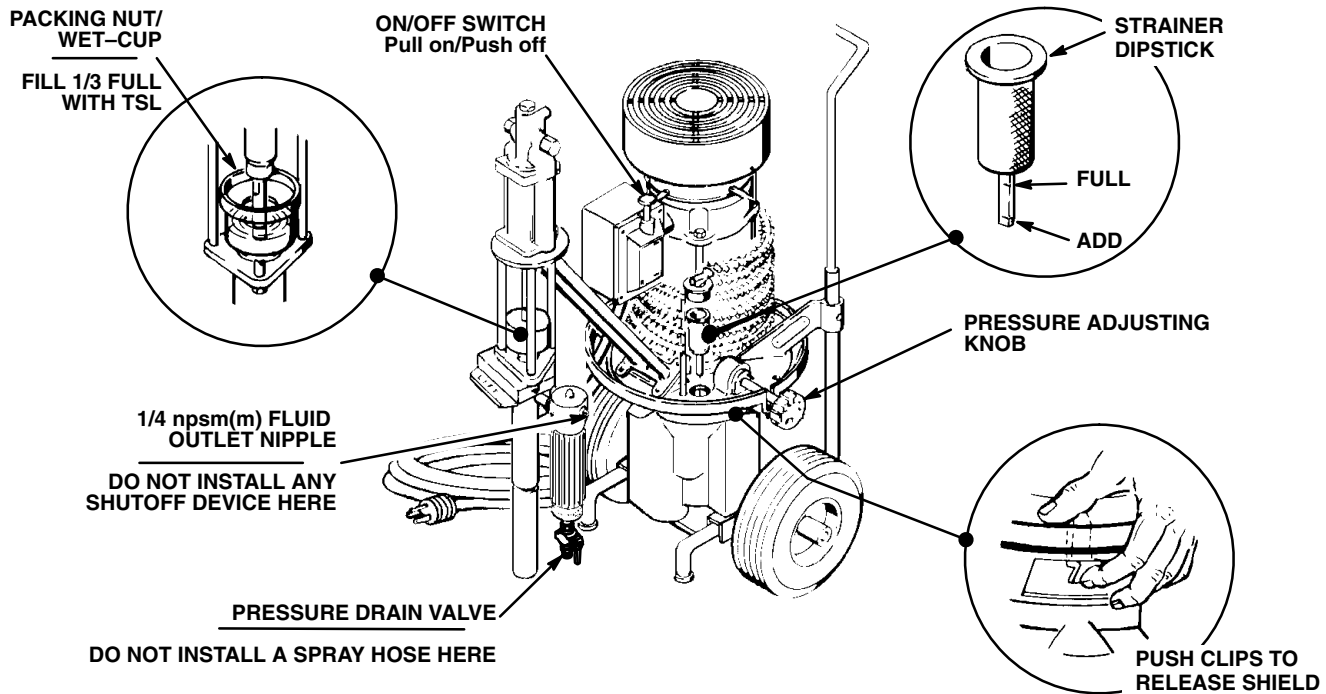

Fig 1
- 1 **Check the Hydraulic Fluid** (See Fig 1.) Push in on the two spring clips and lift the shield off the sprayer.
- 3 **Fill the packing nut/wet-cup** 1/3 full with Graco Throat Seal Liquid (TSL), supplied. To access the cup, push in on the two spring clips and remove the sprayer shield. See Fig 1.